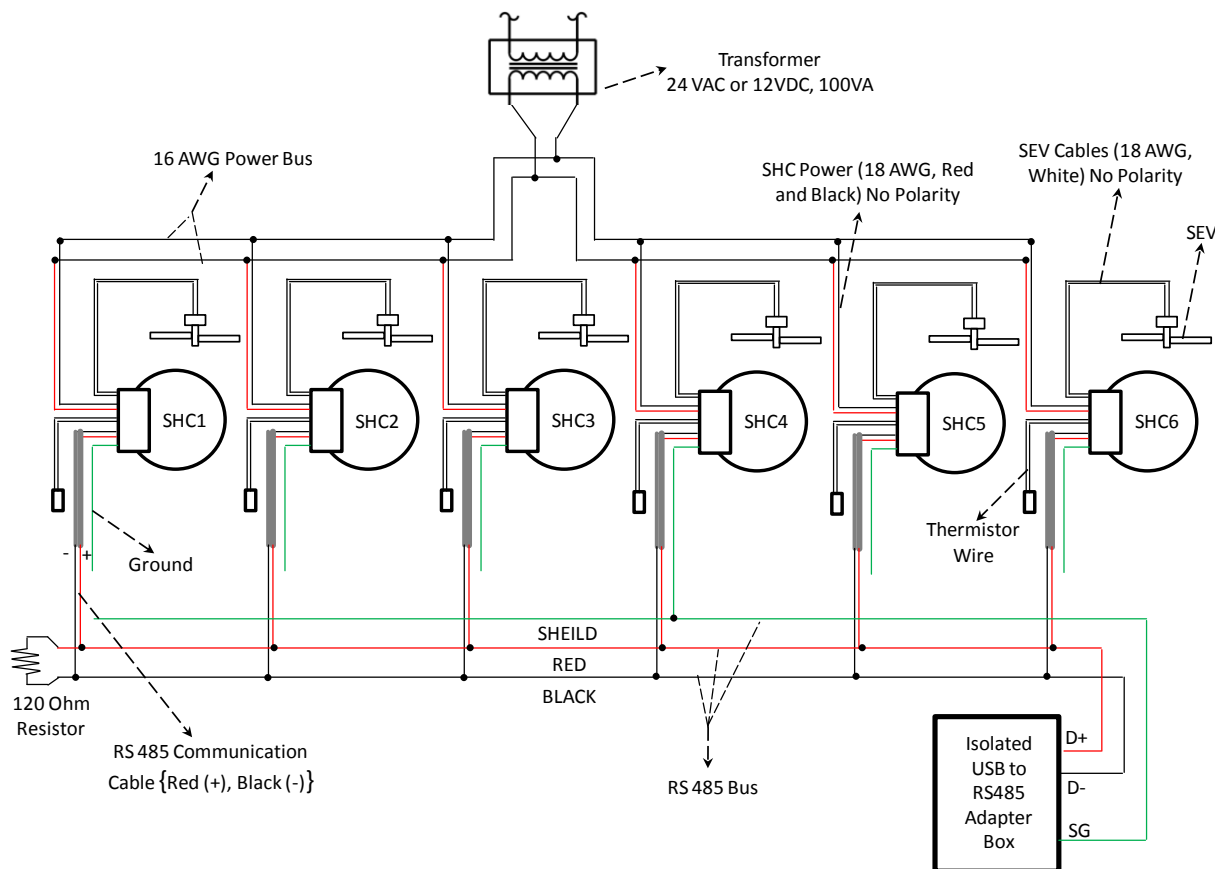
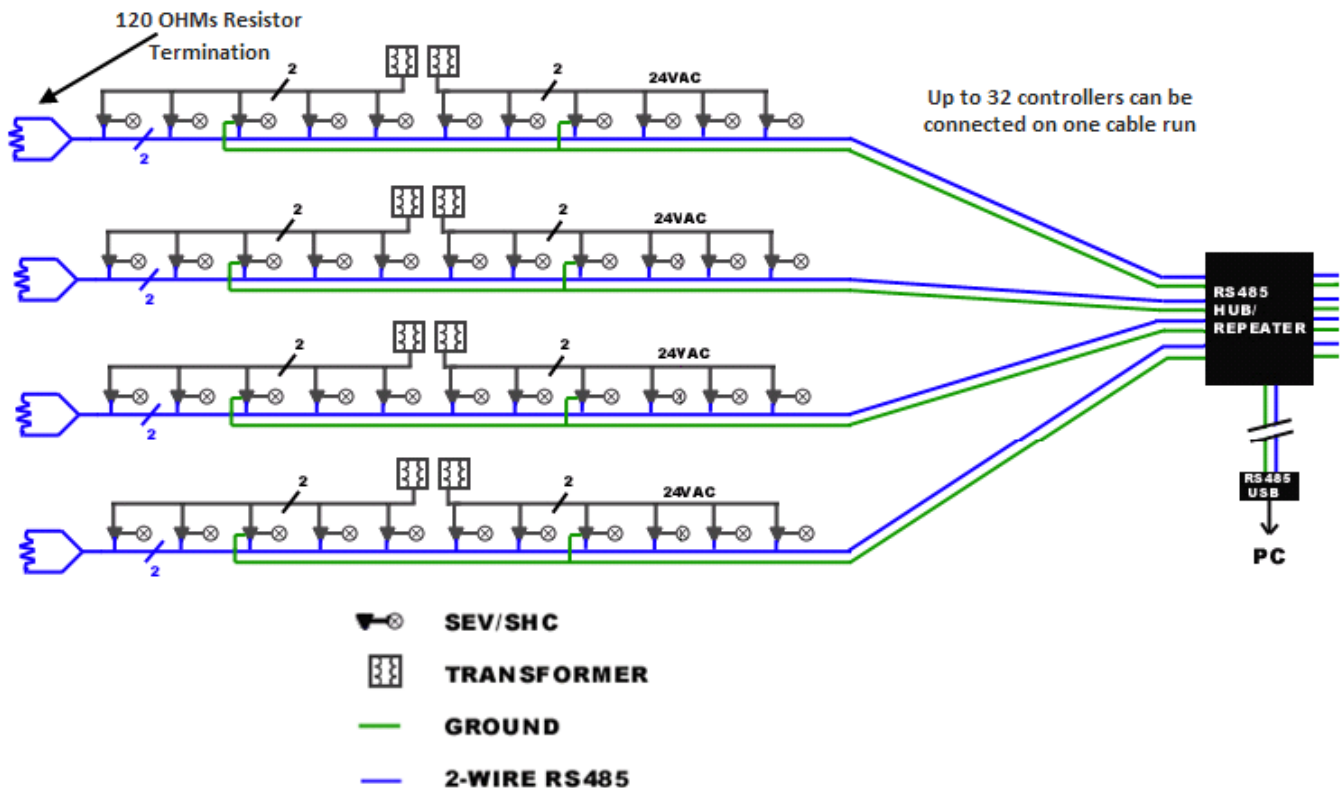

Figure 12: Connection Diagram – 1 Transformer and 6 Controllers
Figure 13: SHC Networking
4. Split the power from the secondary side of the transformer into two by using 16 AWG stranded copper wire (See Figure 12).
7. Connect the power from SHC 4 to SHC 5 and SHC 6 (See Figure 12).
10. Connect the two ¼" female spade connectors of each SHC wiring harness to the terminals of their respective SEV's (See Figure 11 and Figure 12).
Refer to Figure 13: SHC Networking for a typical SHC network installation. The installer has the option of choosing the routing of the cable, provided the following requirements are satisfied:
- ◆ The end of each daisy chain needs to have proper 120 OHM termination (See Figure 12 and Figure 13).
- ◆ One, and only one, SHC on each transformer must have its ground wire connected to the main RS485 signal ground line. (See Figure 13).
- ◆ An RS485 isolator must be installed on each daisy chain prior to entering the hub, or the hub must have isolation on each channel (See Figure 12).